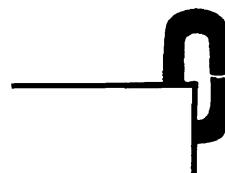

Figure 7
- Loosen the link, reposition link vertically at edge of vise with the level of the cut above the vise jaw (Figure 7).